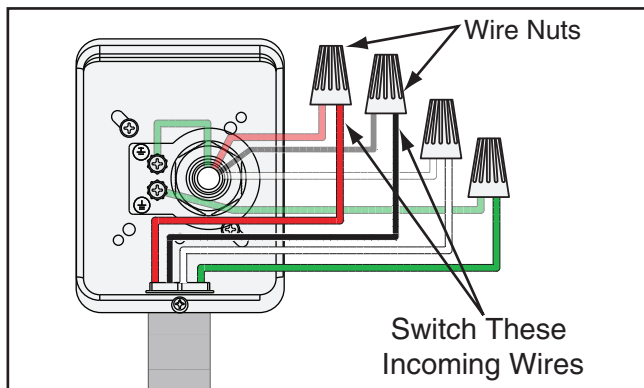

Figure 4. Example of switching incoming power wires.
2. Remove the junction box cover (**Figure 33** on **Page 30**) on the rear of the cabinet and remove the wire nuts shown in **Figure 4**.
For example: Connect the red incoming wire with the black wire coming from the junction box using a wire nut (see **Figure 4**). Then connect the black incoming wire with the red wire coming from the junction box using a wire nut.